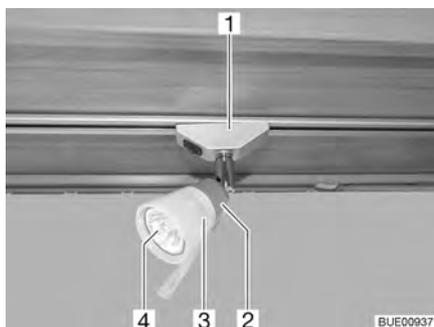

Fig. 256 Halogen spotlight (movable)
- Turn the halogen spotlight (Fig. 256,1) by 90° and remove from rail.
- Turn the lamp shade (Fig. 256,3) in an anticlockwise direction.
- Withdraw lamp shade complete with halogen bulb (Fig. 256,4) carefully from the holder (Fig. 256,2).